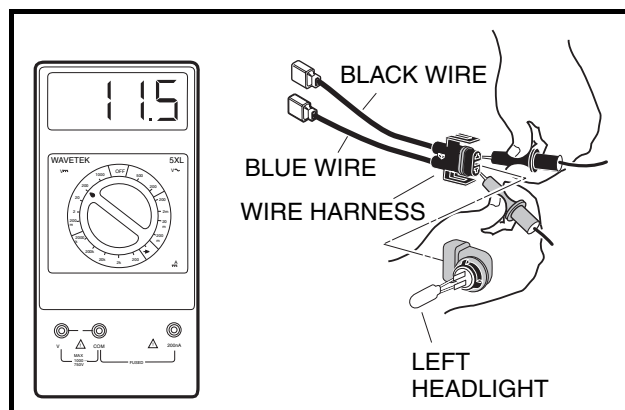

Figure 12-37 Check Voltage to Headlight Socket
3. Remove the wire harness from the headlight (**Figure 12-37, Page 12-36**).